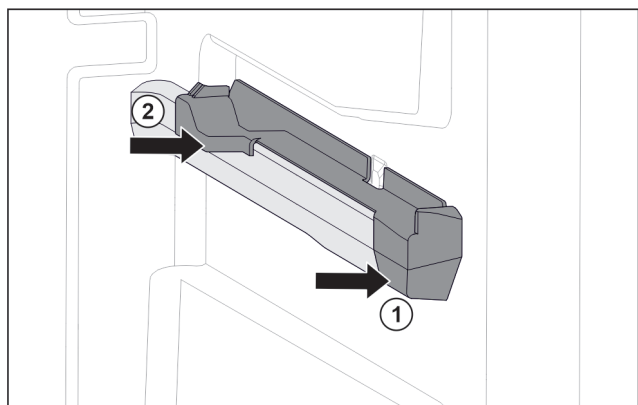

Fig. 132 Attachment on the right moulded rib
- ▶ Position attachment on moulded rib at the front. Fig. 132 (1)
- ▶ Press on attachment at the back. Fig. 132 (2)